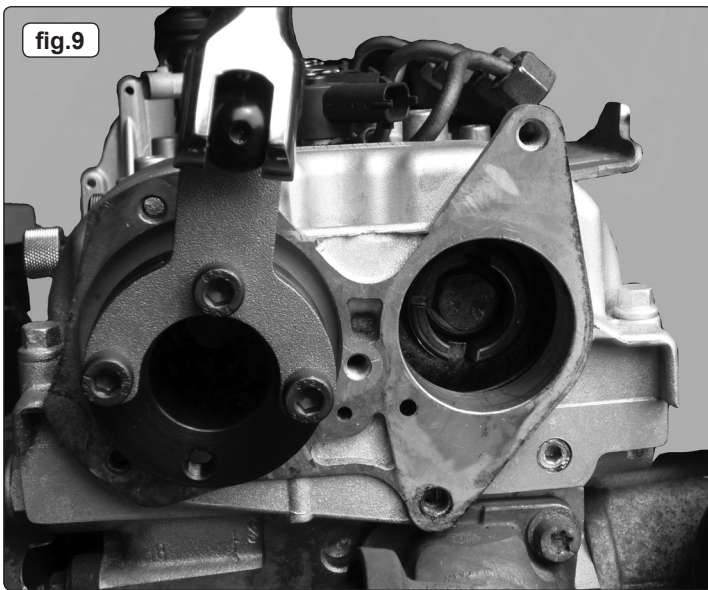

fig.9
- 3.7.3. Fit the assembled tools into the appropriate camshaft. Using a power bar, counter hold the camshaft whilst releasing the central bolt as required (fig.9).